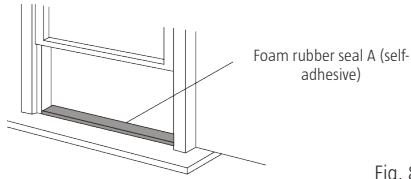

Fig. 8
1. Cut the self-adhesive foam rubber seal to a suitable length and fasten it to the bottom window frame. Fig. 8